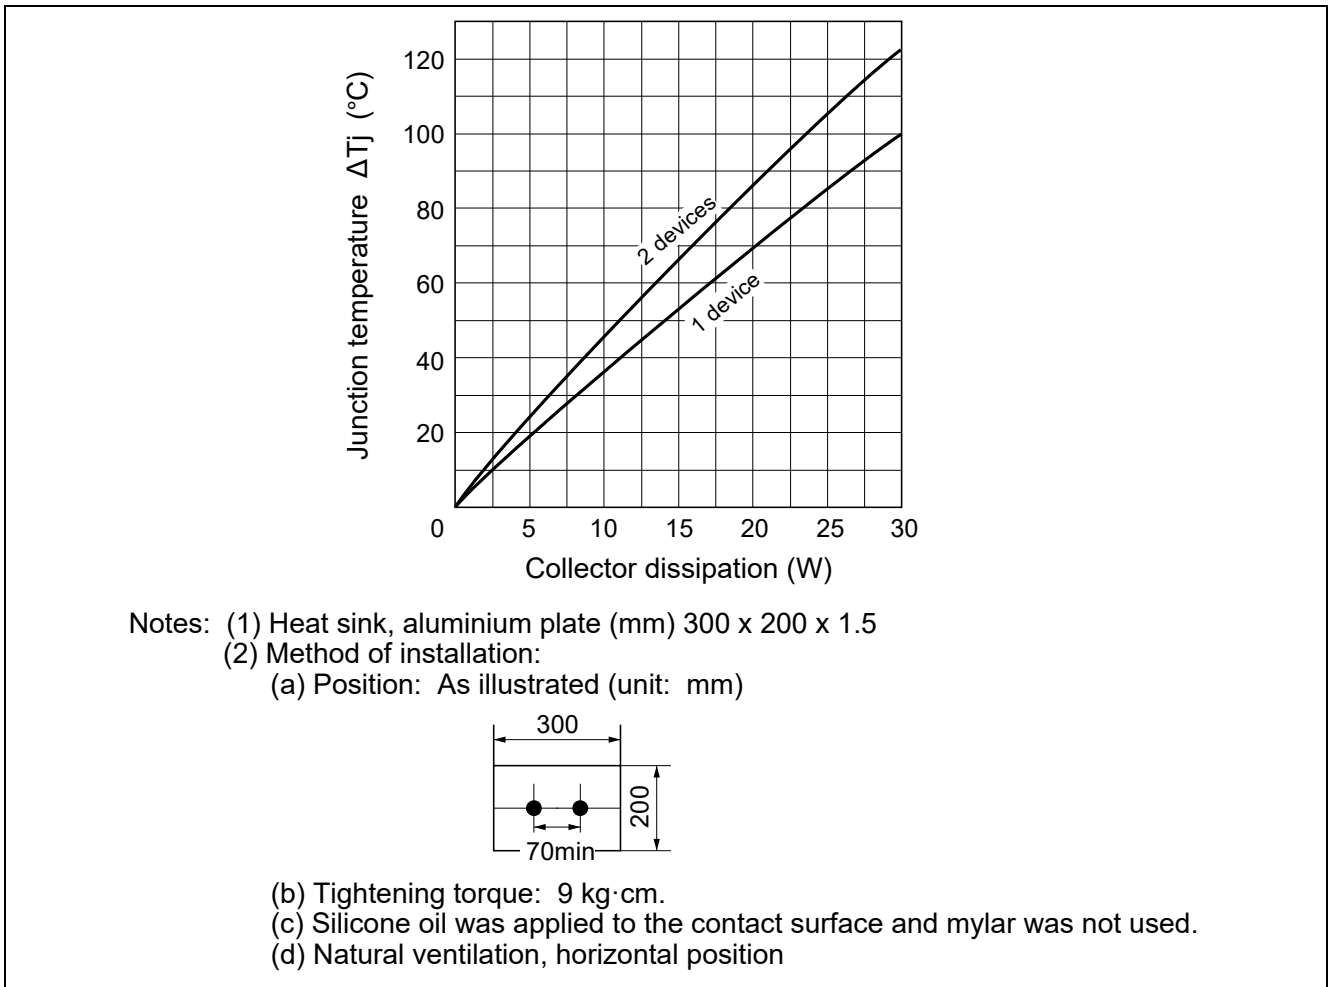

Figure 9 Thermal Resistance with 2 Semiconductor Devices on a Heat Sink
(12) Other precautions and recommendations for heat sink installation
- (i) When two or more semiconductor devices are attached to same heat sink, the thermal resistance of each semiconductor device is increased (see figure 9).